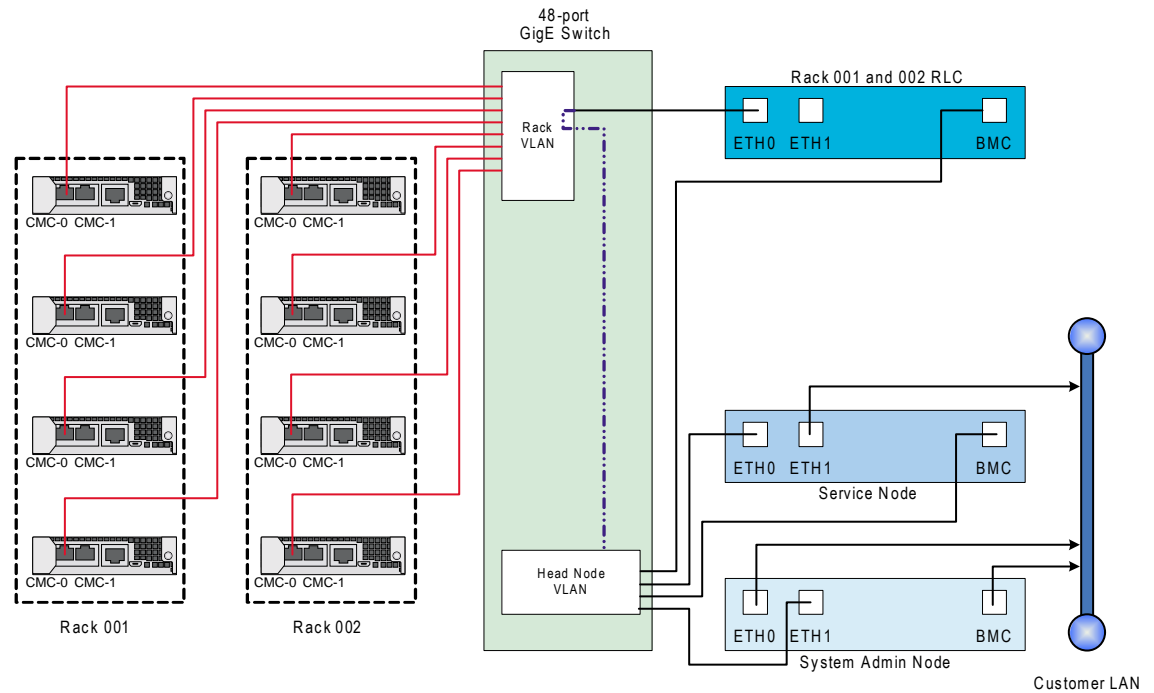

Figure 5-2 Simple CMC LAN (VLAN) Cable Examples
2. Disconnect both power cables, see Figure 5-2 on page 172 for server connection locations.